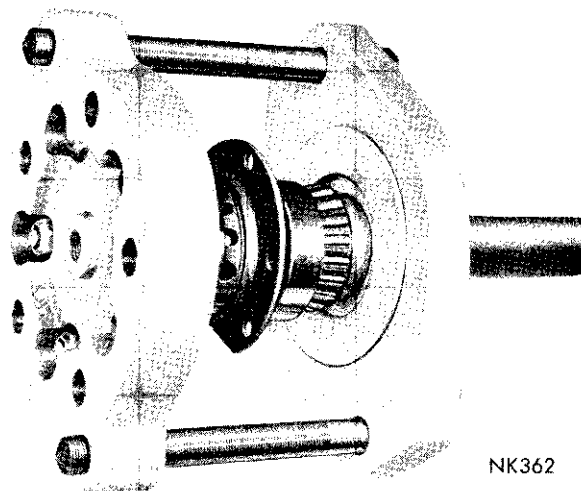

Fig. 13—Installing New Bearing and Collar
(1) Install retainer plate and seal assembly on axle shaft.
(2) Lubricate wheel bearings with Multi-Purpose Grease NLGI Grade 2 EP.
(3) Install a new axle shaft bearing cup, cone and collar on shaft using Tool C-3971 (Fig. 13) and tighten bolts of tool alternately until bearing and collar are seated properly.
(4) Inspect axle shaft seal journal for scratches and polish with #600 crocus cloth if necessary.
(2) Lubricate wheel bearings with Multi-Purpose Grease NLGI Grade 2 E.P. or equivalent.
(3) Install a new axle shaft bearing cup, cone on axle shaft using Tool C-3971 and adapter SP-5168 (Fig. 13) and tighten bolts of tool alternately until bearing is seated properly. Repeat same step for installing the collar.